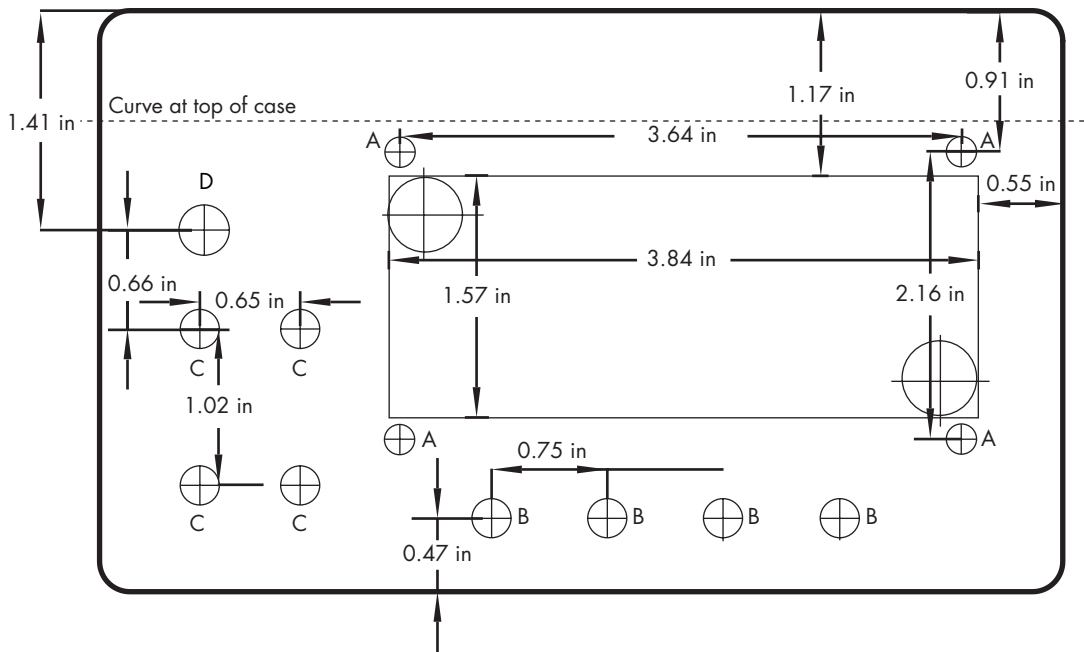

Figure 9-15: The drilling template for the Square-Wave Generator
If you're using the Hammond 1595C sloped-front enclosure I recommend in "Parts List" on page 260 or an equivalent, you can follow the template in Figure 9-15. Just locate the PDF of the drawing in this book's resource files, print it out, lay it over the front of the enclosure, and carefully center punch for the holes. I also use a fine-tip Sharpie marker to indicate locations and to draw on the enclosure. Excess marker can be easily cleaned with isopropyl alcohol.
4. Drill the four mounting holes (labeled A in Figure 9-15) for the display.